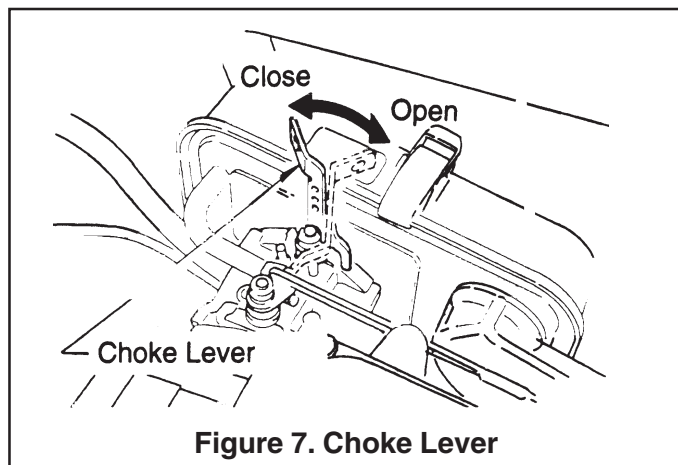

Figure 7. Choke Lever
3. Close the choke lever Figure 7, and move the throttle lever to the "Full Open" position. Turning the choke lever 90 degrees clockwise closes the choke. In cold weather, start the unit with choke fully closed. In warm weather or when the engine is warm, the unit can be started with choke halfway or completely open.
6. If the engine does not start after repeated attempts, check the spark plug for excess fuel. Clean and replace the spark plug as needed, then move the choke lever (Figure 7) to the half open position to avoid flooding and repeat steps 1 thru 5.